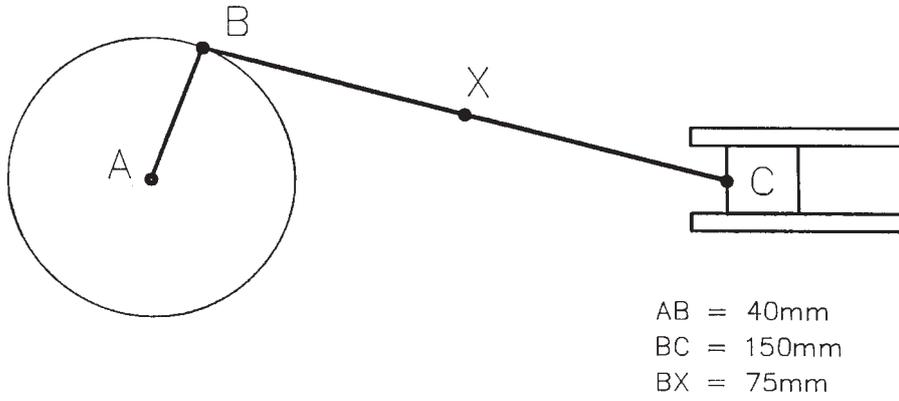

Figure 6.4
- 6.4 Construct the locus of point X for the slider crank mechanism shown in figure 6.4.